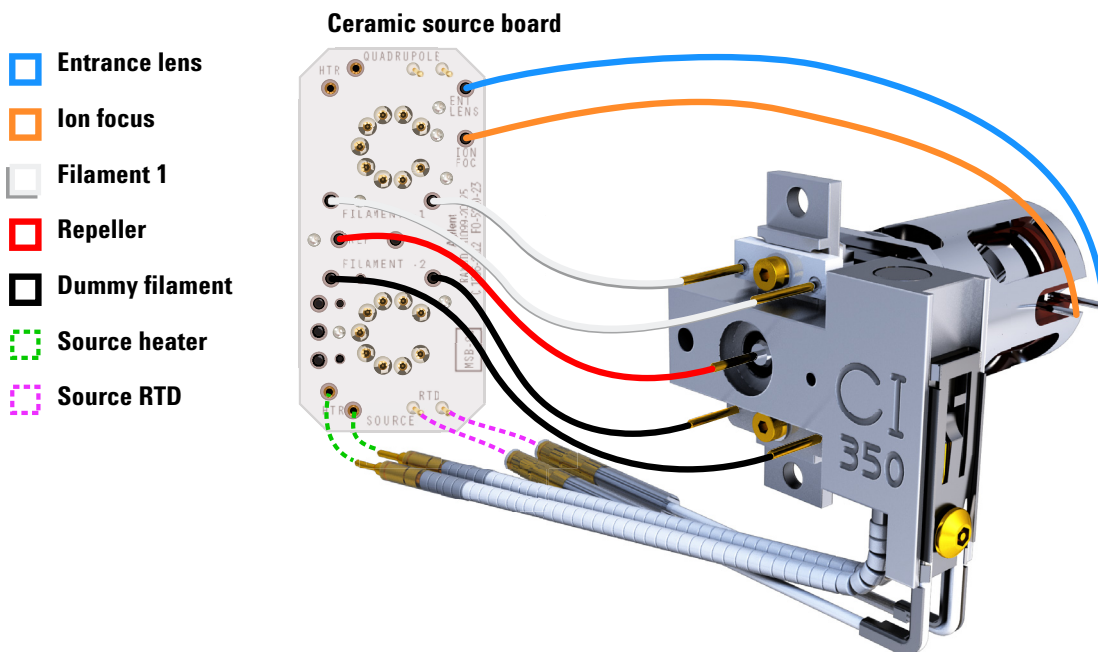

Figure 68 Wiring between the ceramic source board and the source
- 1 Use pliers to connect/disconnect the ceramic board wire leads at the source connectors. (See Figure 68.)
- 2 Use pliers to connect/disconnect the source heater wire leads at the ceramic source board. (See Figure 68.)